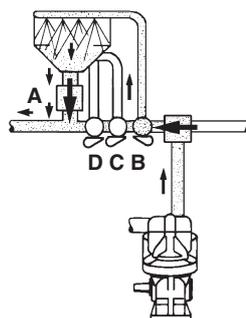

Fig 21
- 9 Engage the hopper flushing device by opening the hopper flush valve (B Fig 21 & B Fig 17).